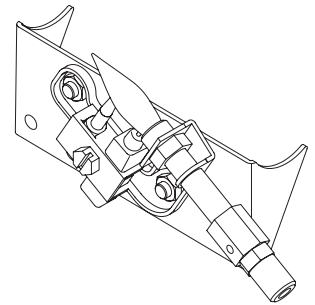
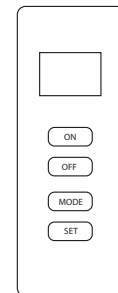

Fig. 18 - Pilot
Fig.19 - Remote
6. With control knob depressed, push down on the ignitor button until the pilot lights. The pilot is located behind the fireplace screen, centered near the rear of the burner (See Fig. 18).
7. Keep control knob depressed for (30) seconds after pilot lights. Release control knob.
- If pilot goes out repeat steps 3 through 7. Wait (1) minute before attempting to light pilot again. If after several tries the pilot still goes out, turn the gas control knob clockwise  to the “OFF” position and call a qualified service technician.
9. To use the included thermostatic remote control, set receiver switch to the “REMOTE” position (See Fig. 19). Press the ON button to turn on the remote to ignite the main burner. Refer to the remote control instruction manual on the next page for “MODE” and “SET” functions.